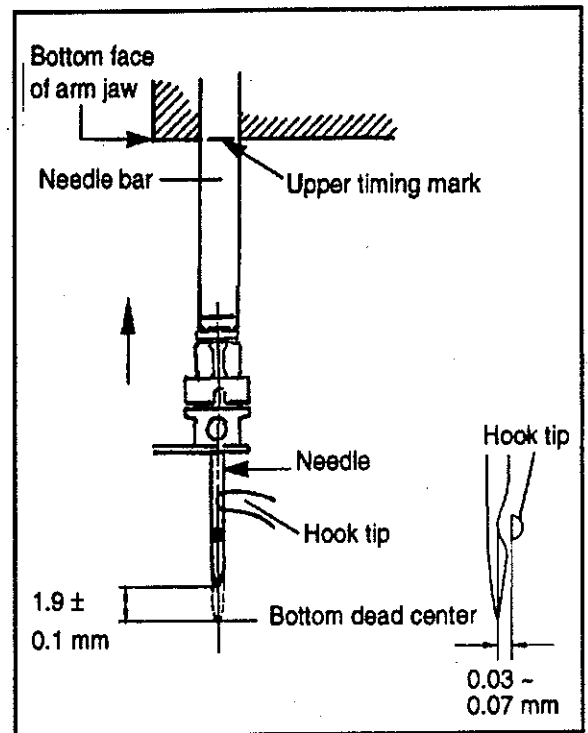
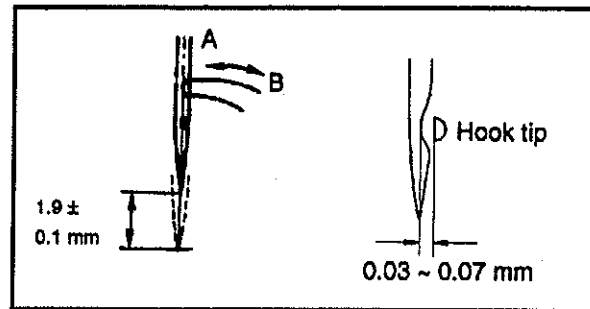

FIG.2
FIG.4
- (4) Rotate the hand wheel forward so that the needle bar is set to the bottom dead center. Rotate the hand wheel again to align the upper timing mark with the bottom face of the arm jaw or the needle bar is 1.9 ± 0.1 mm above the bottom dead center (Fig.2). The hook tip must be aligned with the needle center (Fig.2).
- (5) The clearance between the needle and the hook tip must be $0.03 \sim 0.07$ mm (Fig.2).
- (2) Rotate the hand wheel forward so that the needle bar is set to the bottom dead center. Rotate the hand wheel again to align the upper timing mark with the bottom face of the arm jaw (Fig.2).
- (3) Loosen retaining screw (a) further and rotate the rotary hook in either direction A or B. Align the hook tip with the needle center (Fig.2) and secure a clearance of $0.03 \sim 0.07$ mm between the needle and hook tip (Fig.4 on page 27).
- (5) Rotate the hand wheel forward so that the upper timing mark is aligned with the bottom face of the arm jaw. Check the position of the needle and hook tip (Fig.2 on page 22).